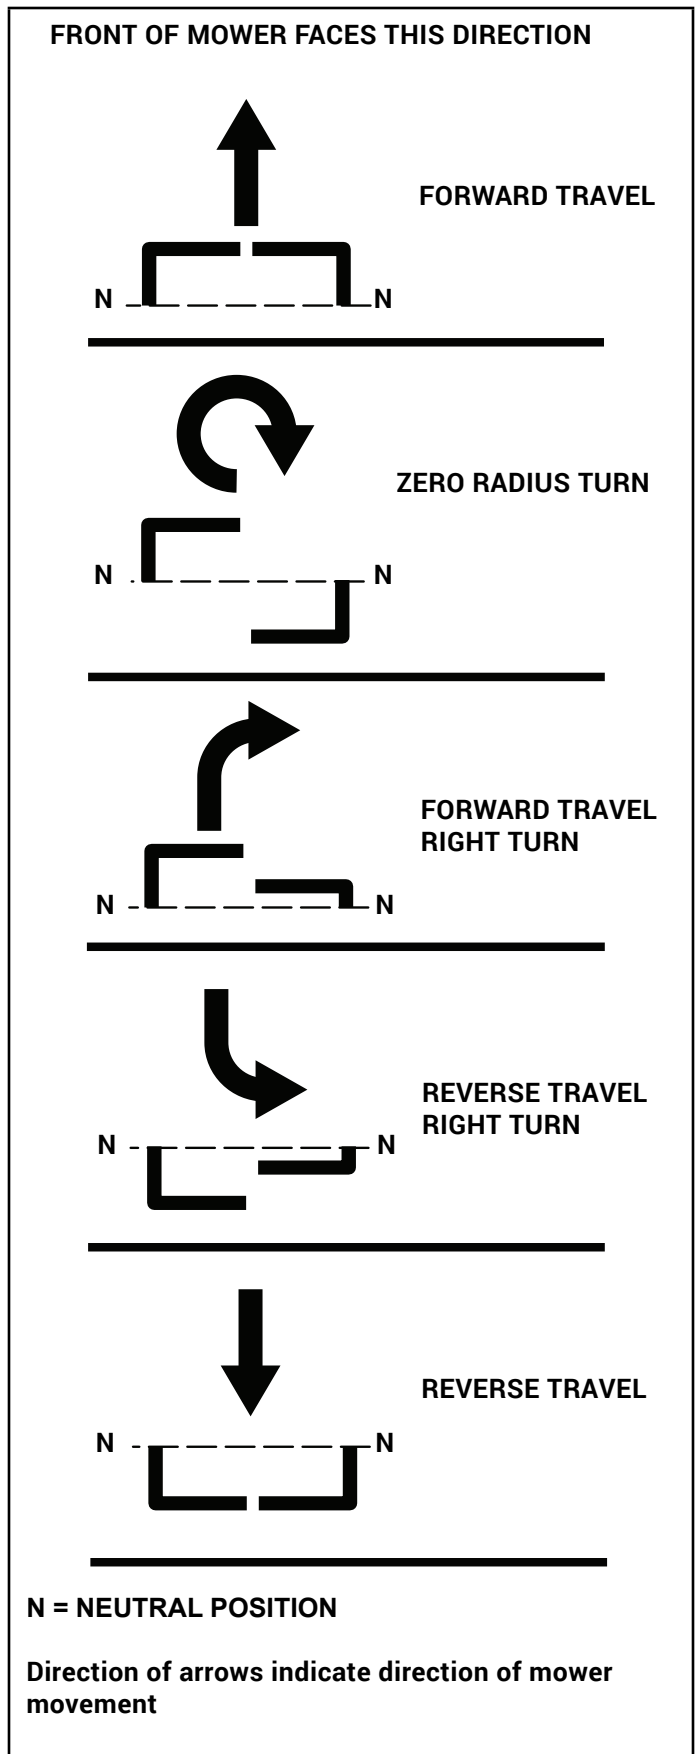

Figure 3-7
**To go forward**, push the steering control levers forward an equal distance. Figure 3-7
**To go in reverse**, pull the steering control levers rearward an equal distance. Figure 3-7
**To turn right**, move the left steering control lever farther forward from neutral than the right steering control lever. Figure 3-7
**Zero radius turn**, move one steering control lever forward and the other steering control lever back of neutral. This allows the drive wheels to counter-rotate. Figure 3-7